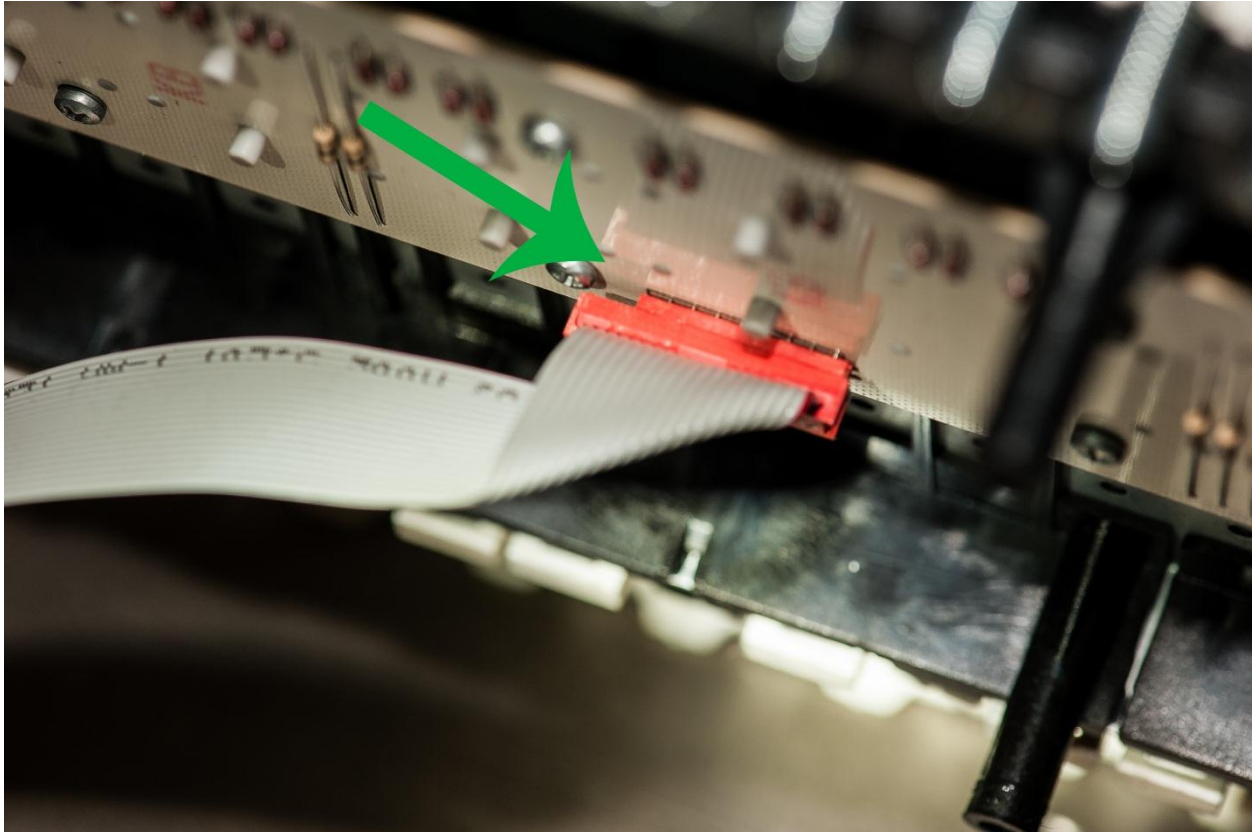

Figure 8 - Detail of connector offset
IMPORTANT!!! At least on this particular keyboard, the rightmost orange connector is LARGER than the board connector. When you reinstall it, match the right edge of the connector to the cable as shown in Figure 8.
16) With the chassis sitting on the keyboard stand, carefully offer the key bed back into the chassis, tilt it slightly upward and reconnect the cables. Make sure to index the right hand orange connector as shown in Figure 8!